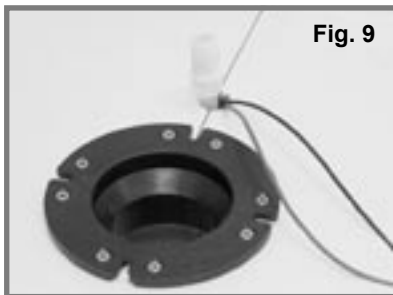

Fig. 8
STEP 8: Route 1/2-inch (13mm) PEX tubing through the smaller hole and install a PEX 1/2-inch MPT fitting (fig. 8).